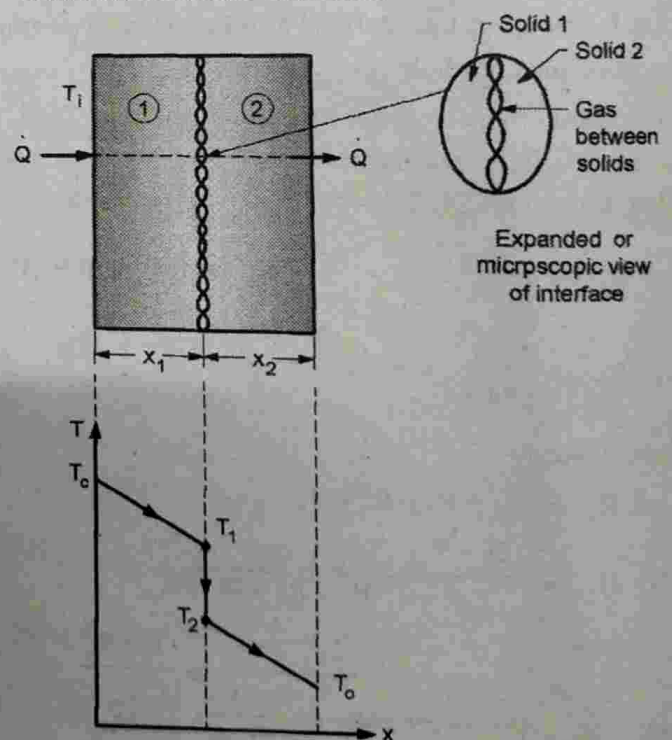

Fig. 2.6.1 : Contact resistance between two solid surfaces
- Consider one dimensional heat flow through a composite slab having two surfaces as shown in Fig. 2.6.1.
- The expanded view of the interface is shown in Fig. 2.6.1. The direct contact between the solid surfaces takes place at a limited number of spots and the void is filled by the surrounding fluid.